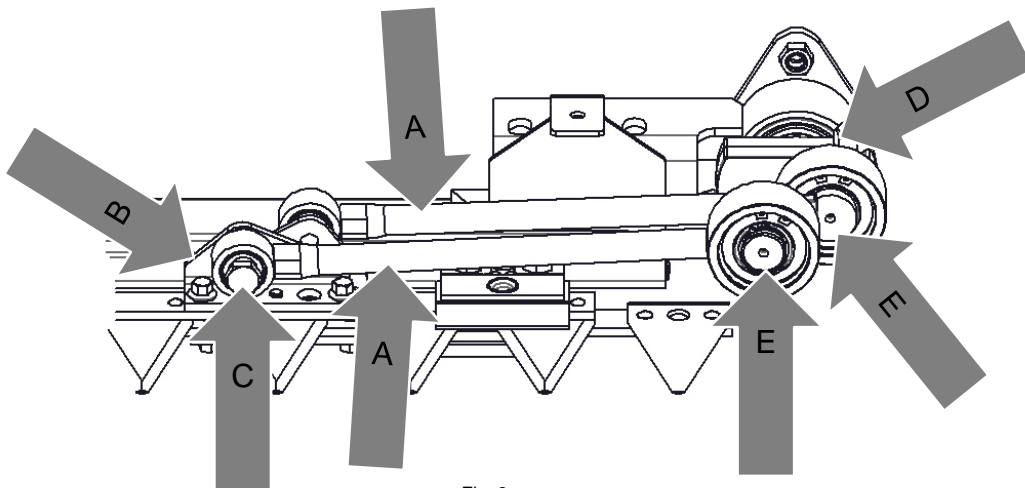

Fig. 9
<p>Attention: It is strictly necessary to set the crankshaft in a manner that the dead centre has been reached. Only then tighten the fastening screw (C) of the rubber-metal bushing. (see Fig. 9)</p>